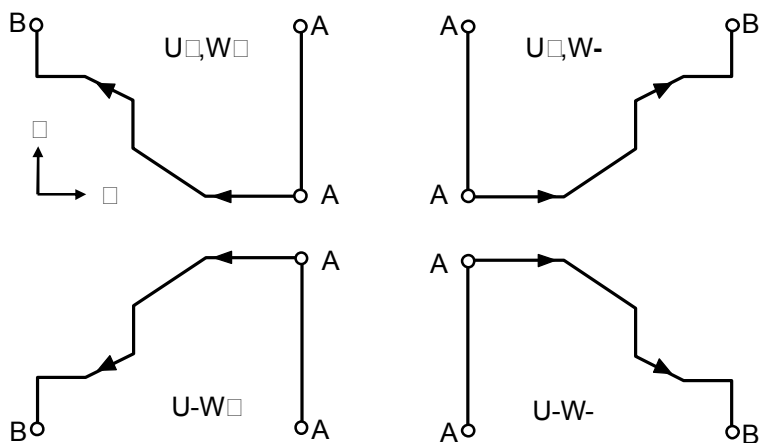

Fig. 3-34 G71 Rough Cut Canned Cycle
- (1) N(ns)~N(nf) specify the machining path of A1~B.
- (2) A maximum of 50 blocks can be inserted from N(ns) to N(nf).
- (3) No subprogram is available from N(ns) to N(nf).
- (4) No assignment of positioning commands on X-axis is allowed from A to A1.
- (5) The feed-rate from A to A1 is either G00 or G01.
- (6) The X and Z tool path from A1 to B must be incremental or decremental.
- (7) The cutting depth U( $\Delta d$ ) and retraction amount of rough cut R(e) are modal codes. They remain valid until another value is specified.
- (8) G71 is applicable to the following four cutting types. They are all parallel to the X-axis. Whether U and W are positive or negative (Fig. 3-34) is determined by the direction of tool path.